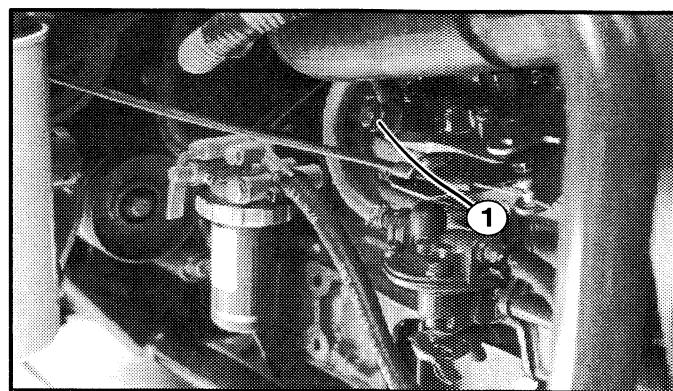

Figure 26
4. Open the air vent on top of the injection pump, **open air vent only when engine is NOT running** (See Fig. 26).